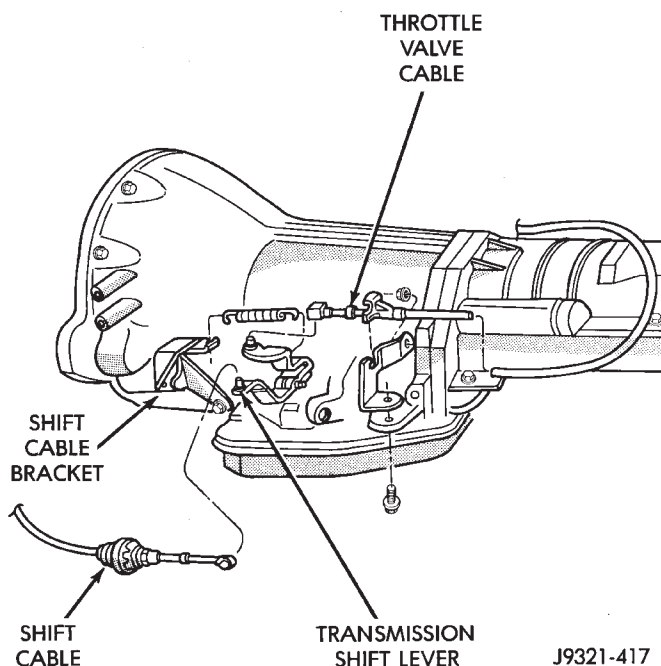

Fig. 5 Shift Cable Attachment At Transmission
- (1) Shift transmission into Park.
- (2) Raise vehicle.
- (3) Release cable adjuster clamp (at transmission end of cable) to unlock cable (Fig. 5).
- (4) Unsnap cable from cable bracket (Fig. 5).
- (5) Check transmission shift lever position by moving it all the way rearward into Park detent.
- (6) Verify positive engagement of park lock by attempting to rotate propeller shaft. Shaft will not rotate when park lock is engaged.
- (7) Snap cable into cable bracket on transmission.
- (8) Lock shift cable by pressing cable adjuster clamp down until it snaps into place.
- (9) Check engine starting. Engine should start only in Park and Neutral.
- (10) Lower vehicle.